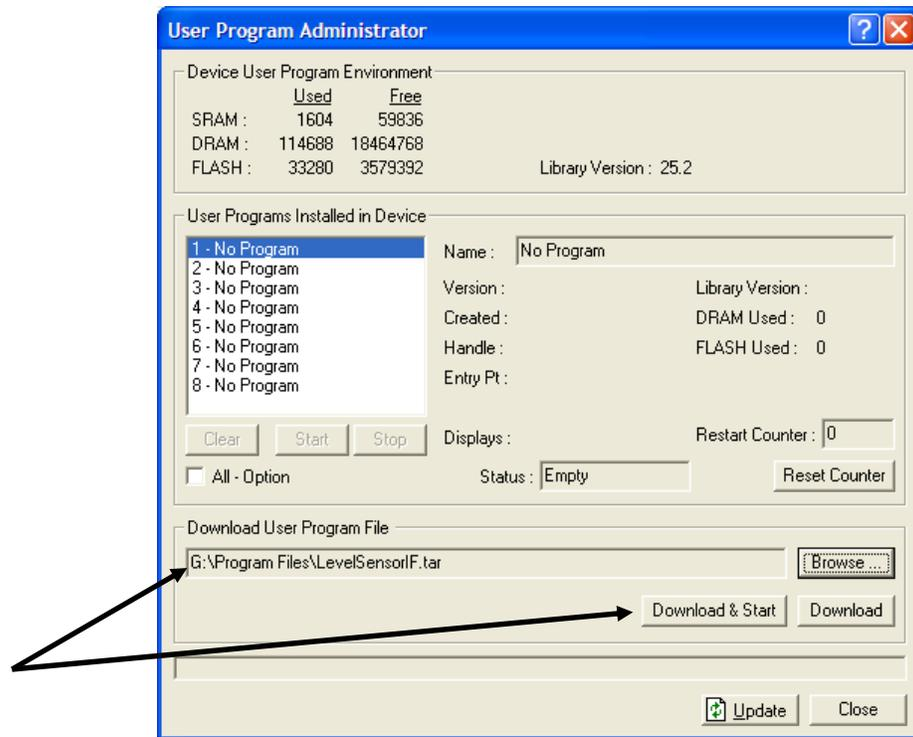

Figure 8. User Program Administrator
- Click **Open** to select the program file. The User Program Administrator screen displays. As shown in *Figure 8*, note that the Download User Program File frame identifies the selected program and that the **Download** button is active: